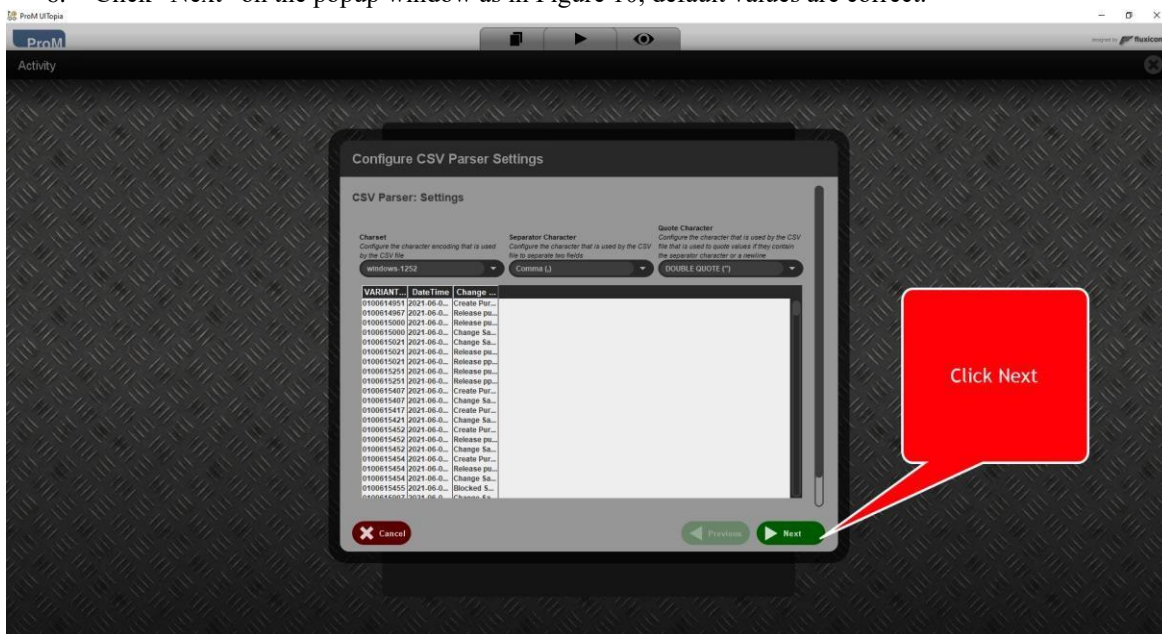

Figure 10 – Image showing how to continue with the conversion options.
6. Click “Next” on the popup window as in Figure 10, default values are correct.